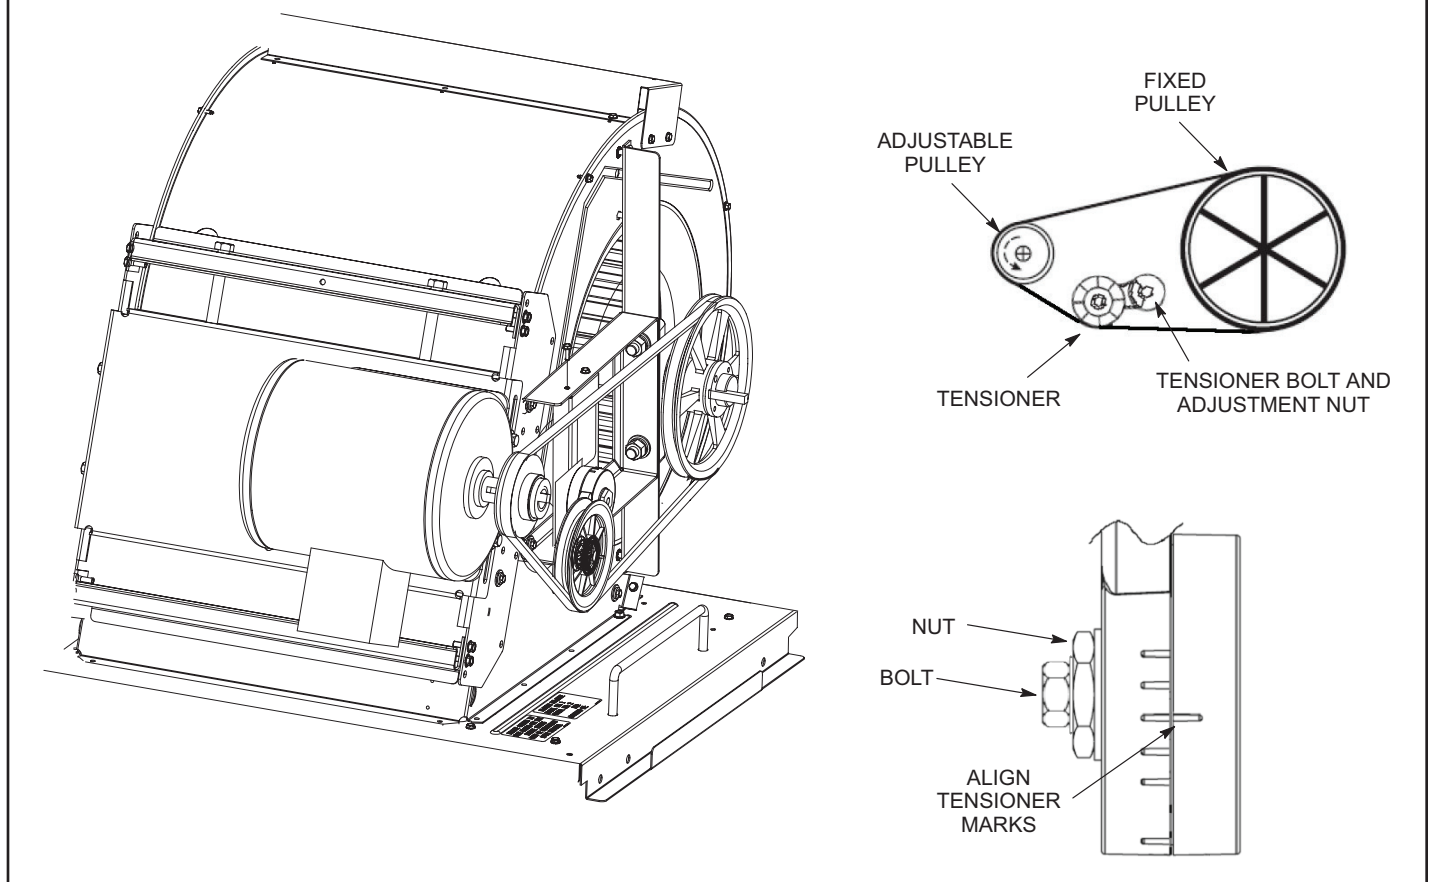

FIGURE 24
- 1 - Loosen the bolt in the center of the tensioner. See FIGURE 24.